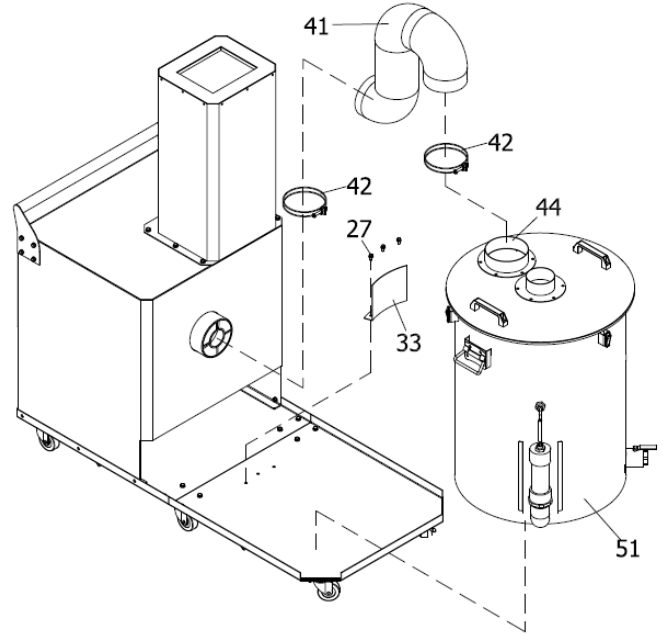

Figure 8-6: Setup Installation Cont'd
15. Place the Hose (NO. 41) onto the Outlet Adapter (NO. 44) with Hose Clamp (NO. 42). See Figure 8-6